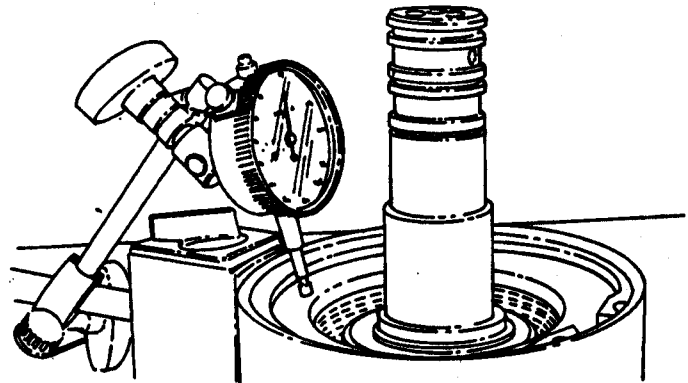

Figure 43.
5. Install pressure (end) plate (75). Make sure that the prongs on the pressure plate DO NOT locate in the large grooves in the hub (the ones with drilled holes). Install circlip (78).
6. Using a dial test indicator as shown in Figure 43, measure the end float of the pressure (end) plate, which should be 0.075 to 0.126 inches (1.90 to 3.20 mm). If necessary, fit shims (79, Figure 2) between the retaining circlip (78) and pressure (end) plate (75) to correct end float inaccuracies.